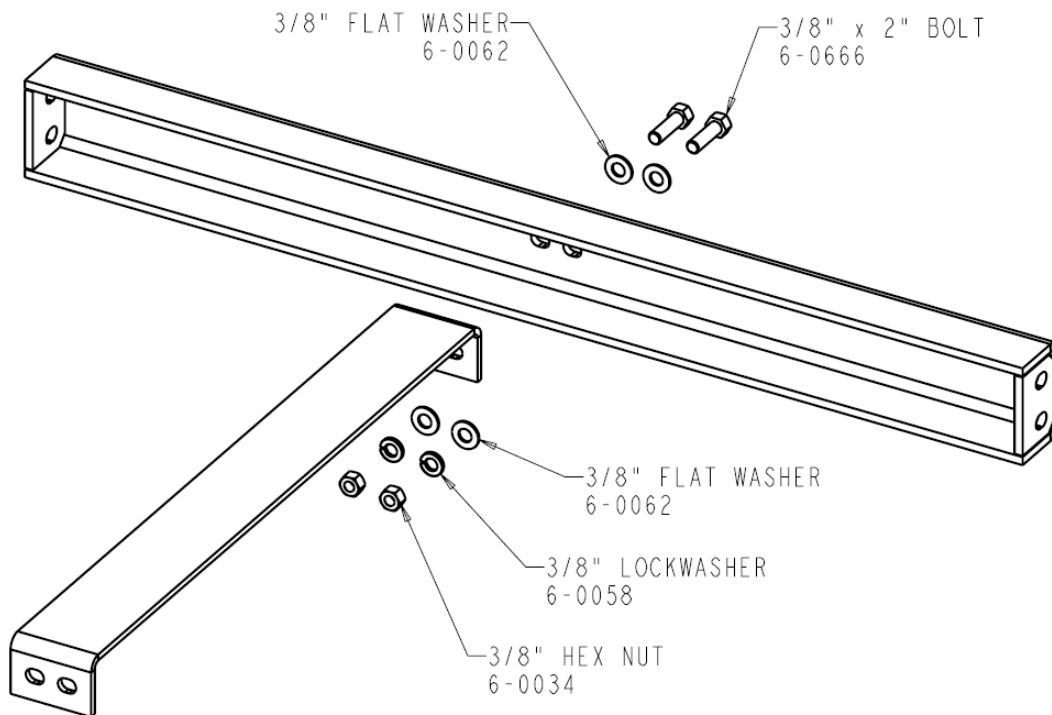

Figure 16 – Mid-Section Assembly
- Beginning with the Mid-Section, attached the single support brace between the joists using the 3/8" hardware included. Refer to Figure 16.